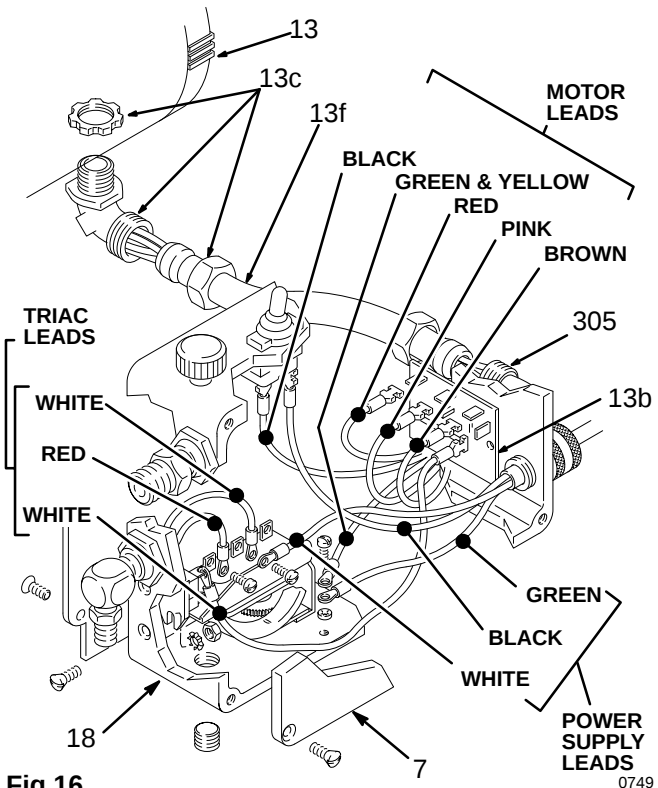

Fig 16
1. Remove the pressure control cover (7). Pull the board (13b) out carefully, just far enough to reach the wire terminals. Disconnect the leads and remove the board. See Fig 16.
2. Disconnect the spray hose, the drain hose (41) and the pump hose (26) at the pressure control.
3. Disconnect the motor leads (black and yellow/green). See Fig 16.
9. Connect any other loose wires. See Fig 16.